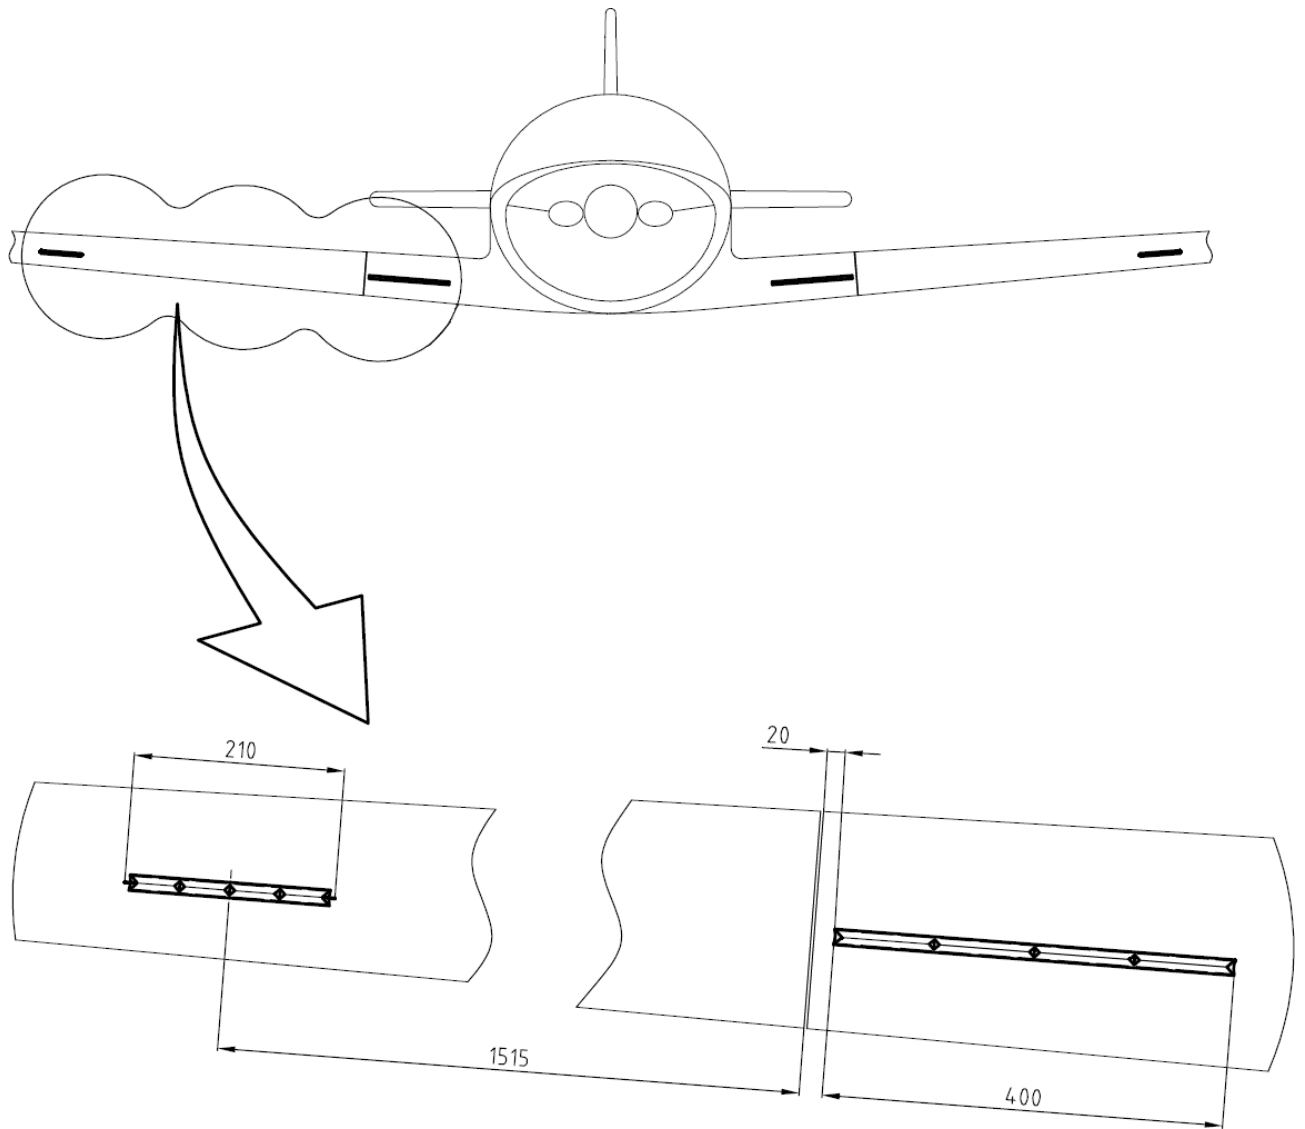
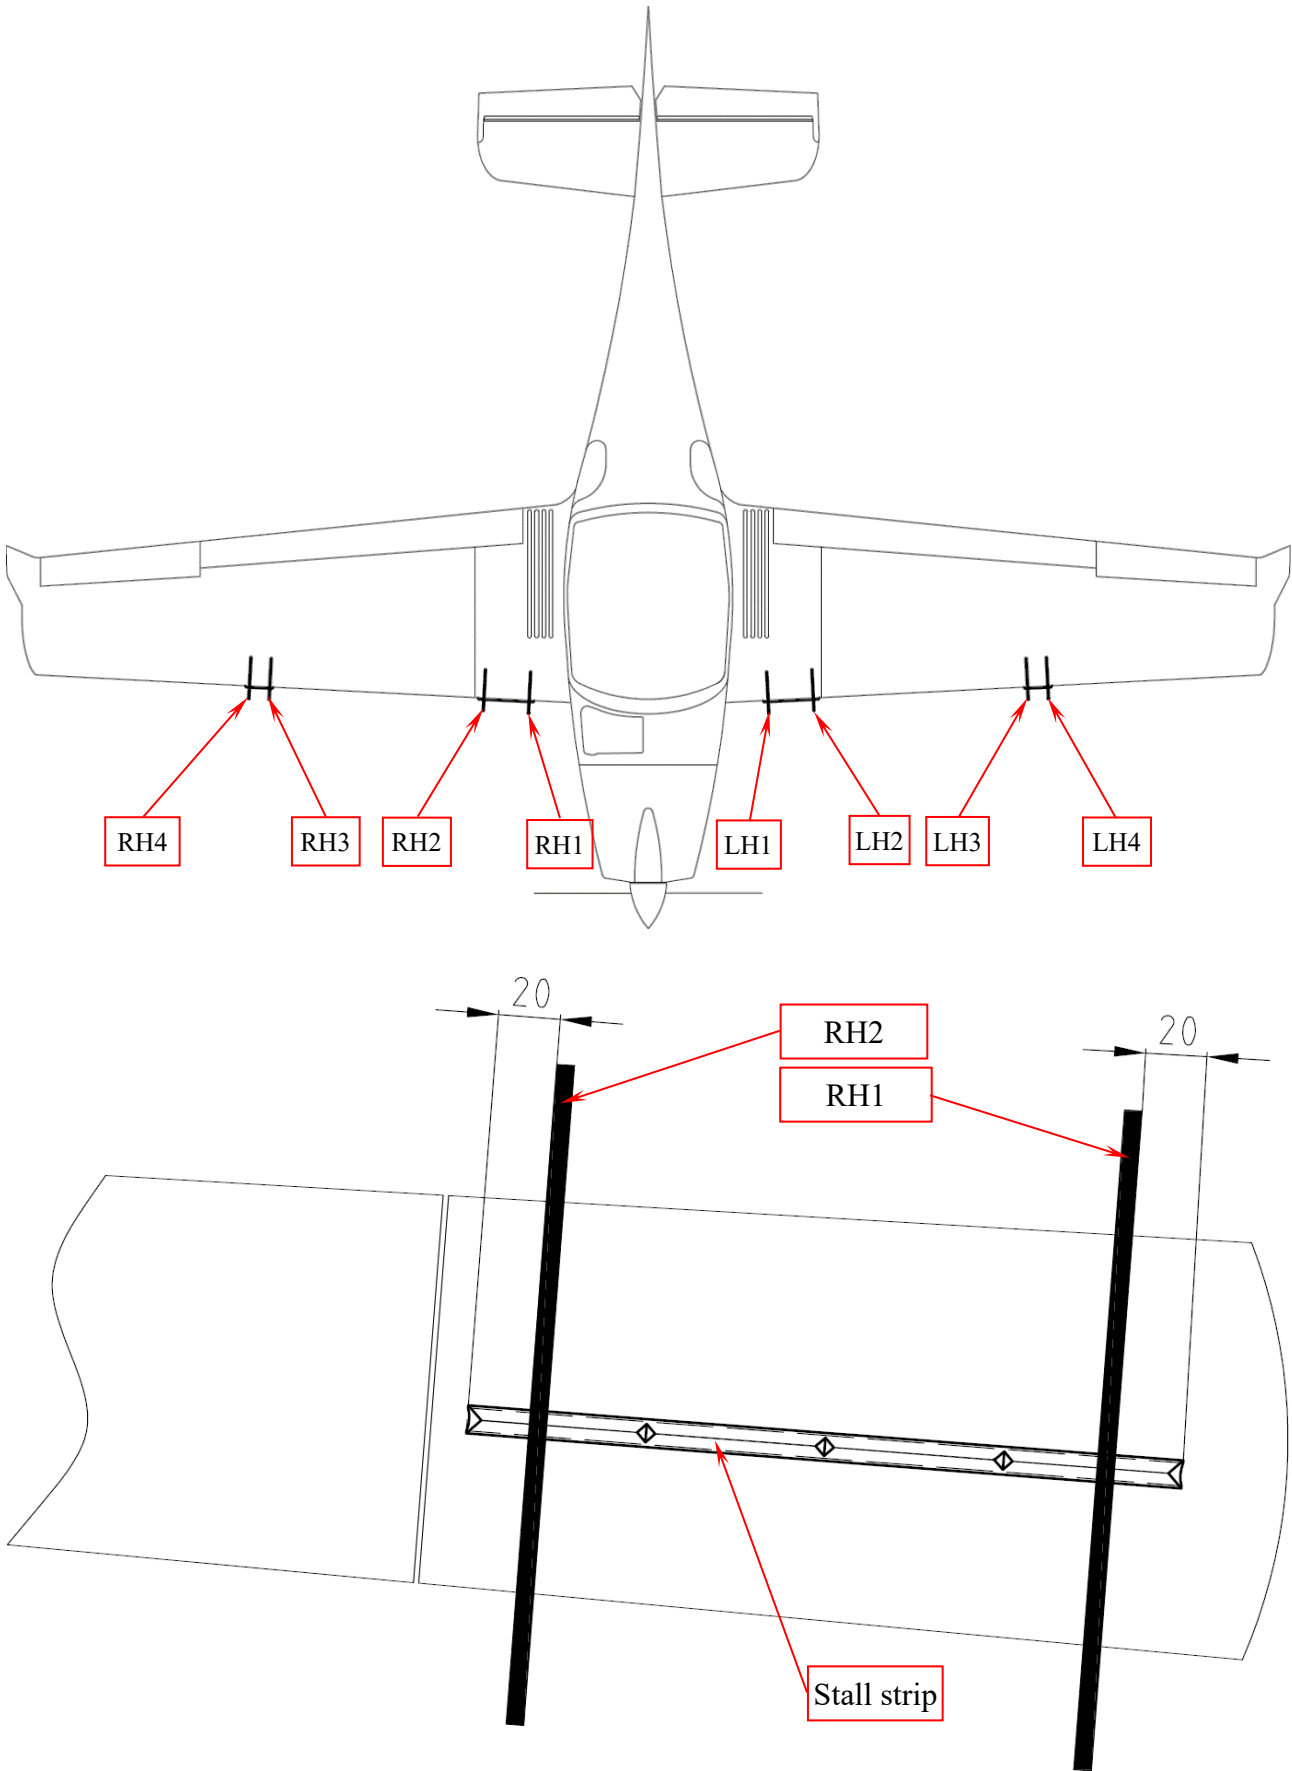

Fig. 1 Stall strips wing span position
Fig. 2 Template/stall strip position and adjustment
- 4) Establish the wing span positions of stall strips (without bonding) according to Fig. 1 on wing leading edge (right side shown, left side mirrored).
- 6) Use the templates to define the stall strip position on leading edge profile. The templates are positioned 20 mm from stall strip ends (Fig. 2).
- 10) Place the stall strips to the marked positions on the leading edge, check the correct positions using templates (Fig. 2), press and fix the stall strips (Fig. 1) using the adhesive tape or suitable jig. The stall strip's edges must be filled with adhesive.